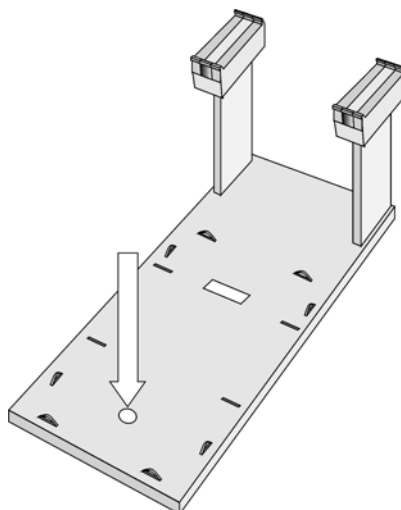

Figure 18. Trayholder Reference Position
- 6 Rotate the outer knob to adjust the X- axis position to the Trayholder **Reference Position** (see Figure 18, page 28).